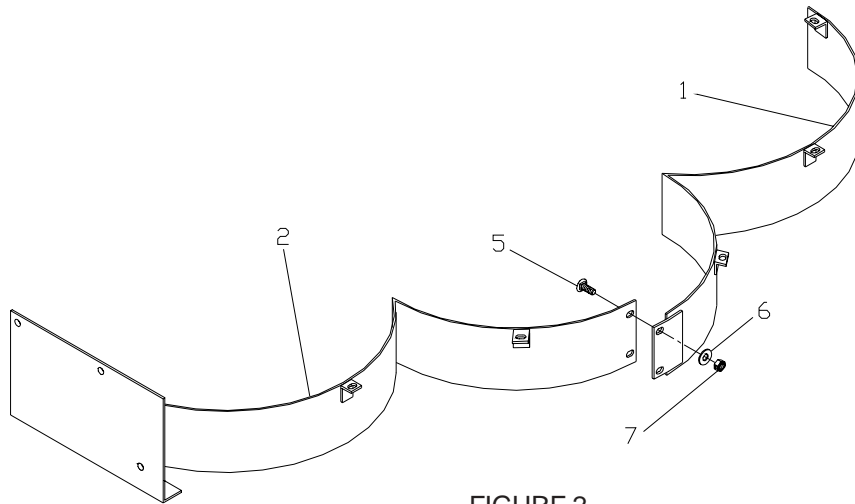

FIGURE 2
Step 2: In the kit there are two baffle sections(item 1 and 2). Bolt the two sections together in the front using two of the carriage bolts provided. (see fig. 2) NOTE: Turn the fasteners as shown in fig. 2.